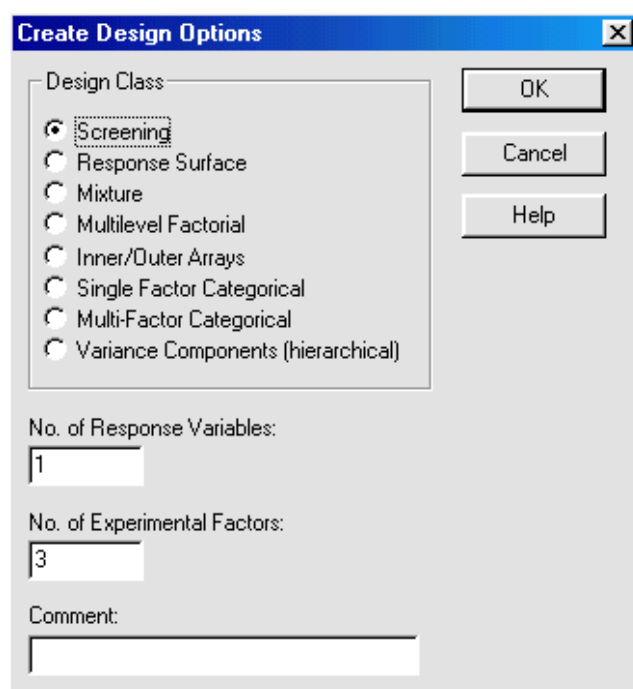

Figure 1-1. Create Design Options Dialog Box
1. Choose SPECIAL... EXPERIMENTAL DESIGN... CREATE DESIGN... from the Menu bar to display the Create Design Options dialog box shown in Figure 1-1.